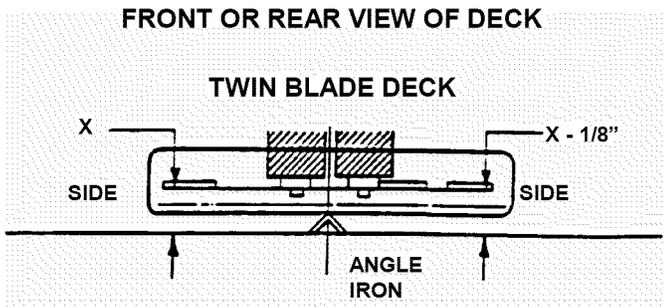

FIGURE 4.6
- e. Measure the distance from blade tips to floor. If the measurement is within 1/8" from side-to-side, the deck levelness is satisfactory. If the difference from side-to-side is greater than 1/8", continue to the Step "f" for adjustment. See Figure 4.6.